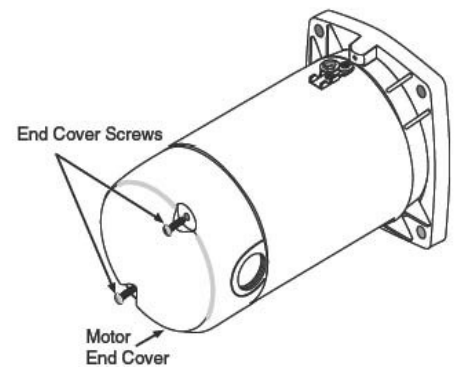

Figure 3 - Removing Motor End Cover
- If the power source is 115 volts, remove the motor end cover (Figure 3)